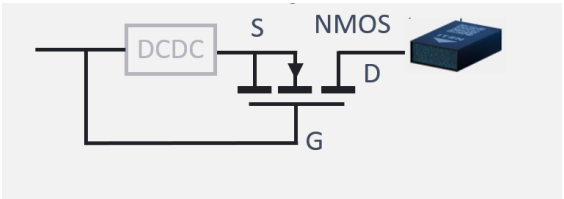

Figure 17: Reverse current protection with NMOS
- An NMOS transistor with the gate connected to the source after the DCDC converter as shown in figure 17. Be careful that the source might need to be at a certain level to enable the complete charge to 2.7V according to the  $V_{gs}$  threshold.